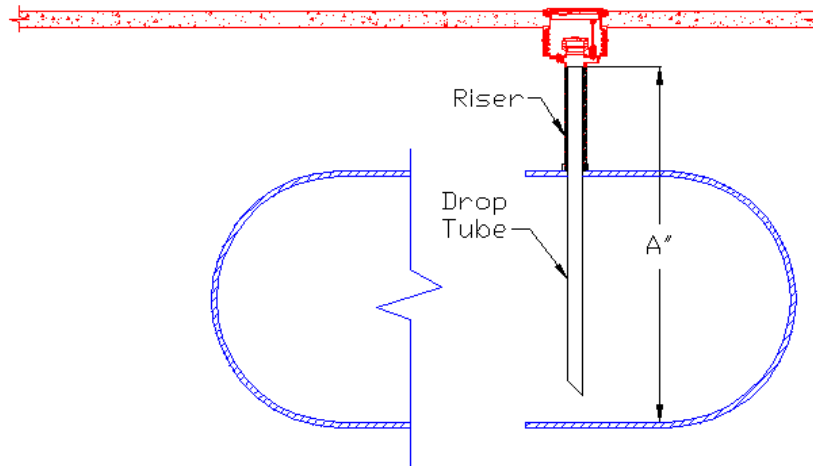

Figure 1
1. Measure height "A" from the top of the drop tube to the bottom of the tank shown in Figure 1. Then remove the drop tube.